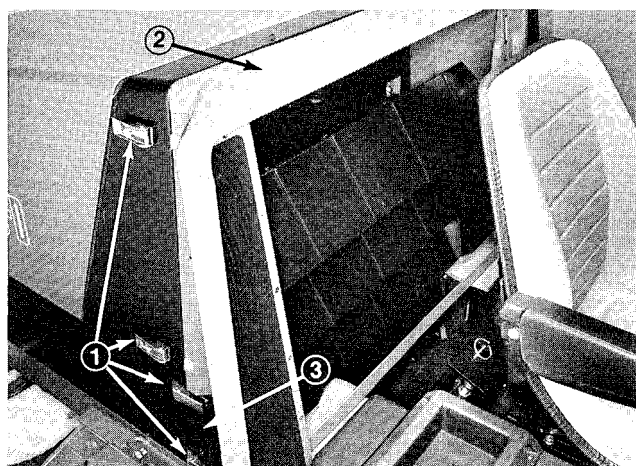

Figure 40
- B. Unlatch latch handles on both sides and remove radiator cowl and grille support (Fig. 40).